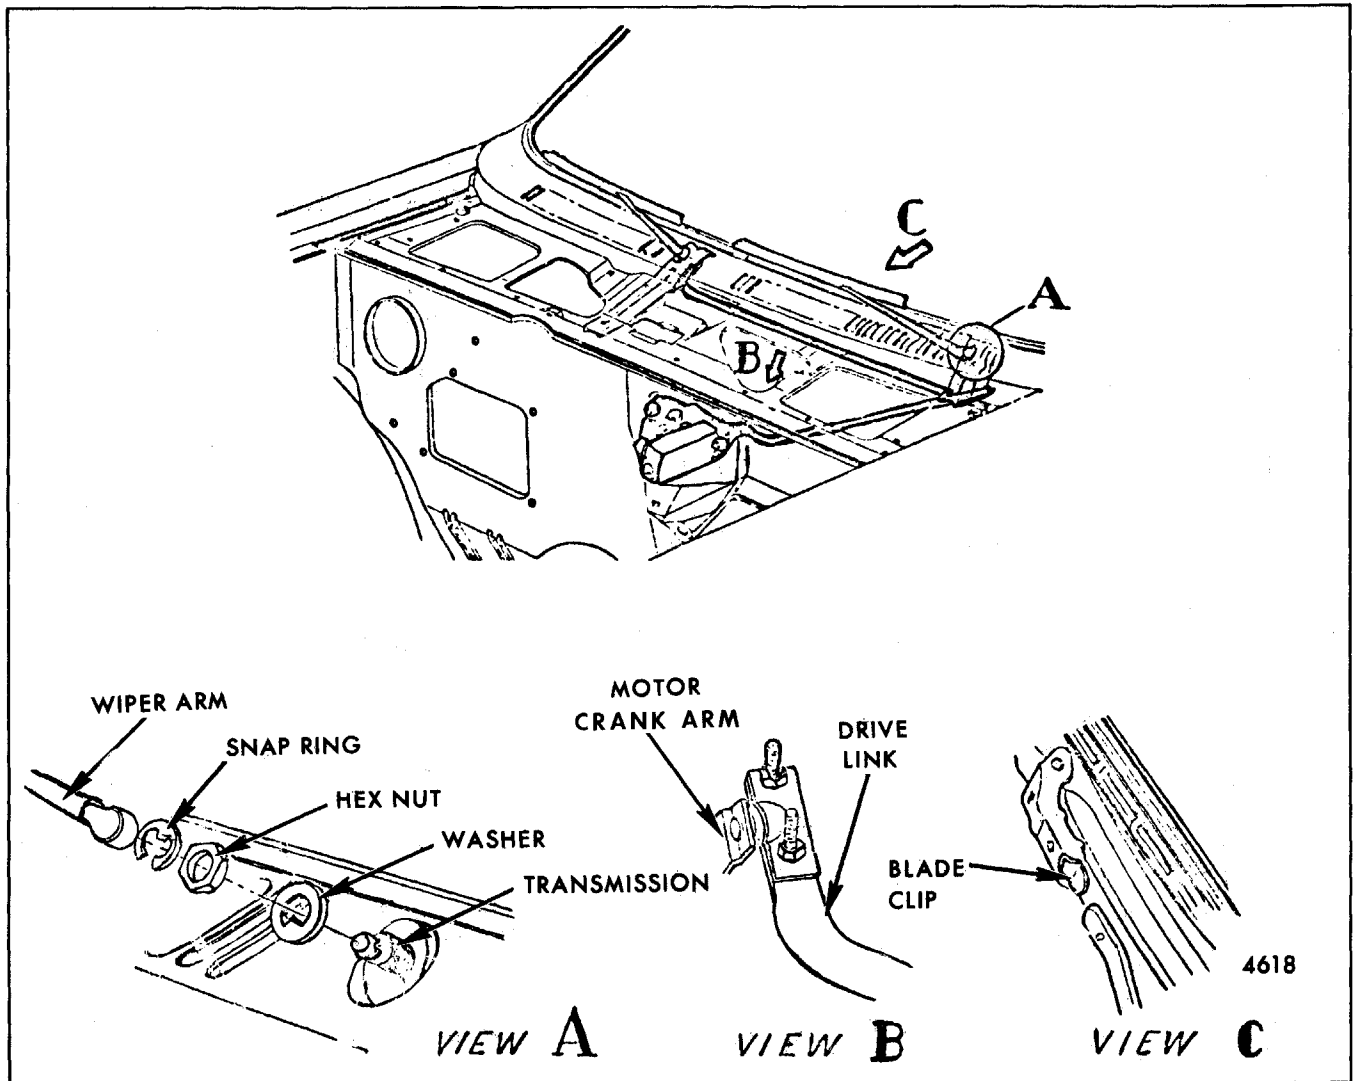

Fig. 2-31-Wiper Installation - H Styles
On H styles, to remove the wiper blade from the wiper arm depress the spring type blade clip (Fig. 2-31) away from the underside of the arm and slide arm out of blade clip.
4. Loosen, do not remove, transmission drive link to motor crank arm attaching nuts (Fig. 2-31) and disconnect drive link from motor crank arm.